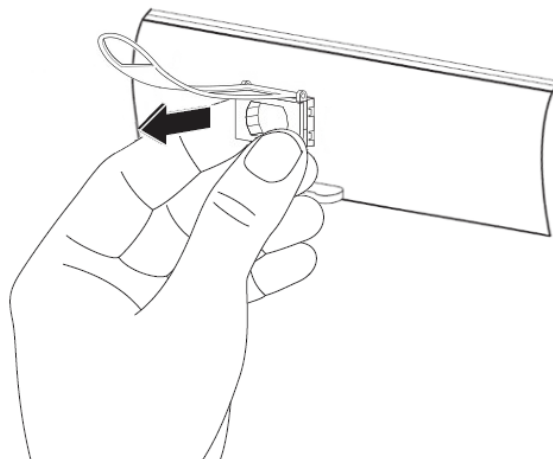

Figure 6 : Removing a QSFP+ Module from the port
4. Grasp the module between your thumb and index finger and carefully remove it from the port, as shown in Figure 6.